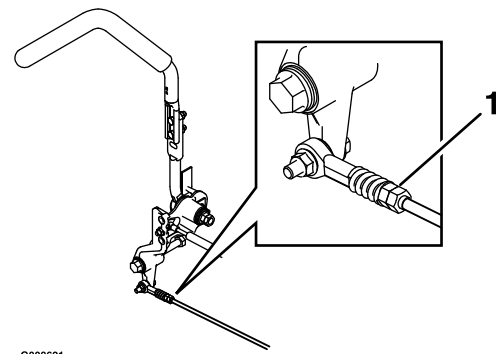

Figure 36
7. Bring the motion control levers into the neutral position. Adjust pump control rod lengths by rotating the double nuts on the rod in the appropriate direction until the wheels slightly creep in reverse (Figure 36). Move the motion control levers to the reverse position and while applying slight pressure to the lever allow the reverse indicator springs to bring the levers back to neutral. The wheels must stop turning or slightly creep in reverse.